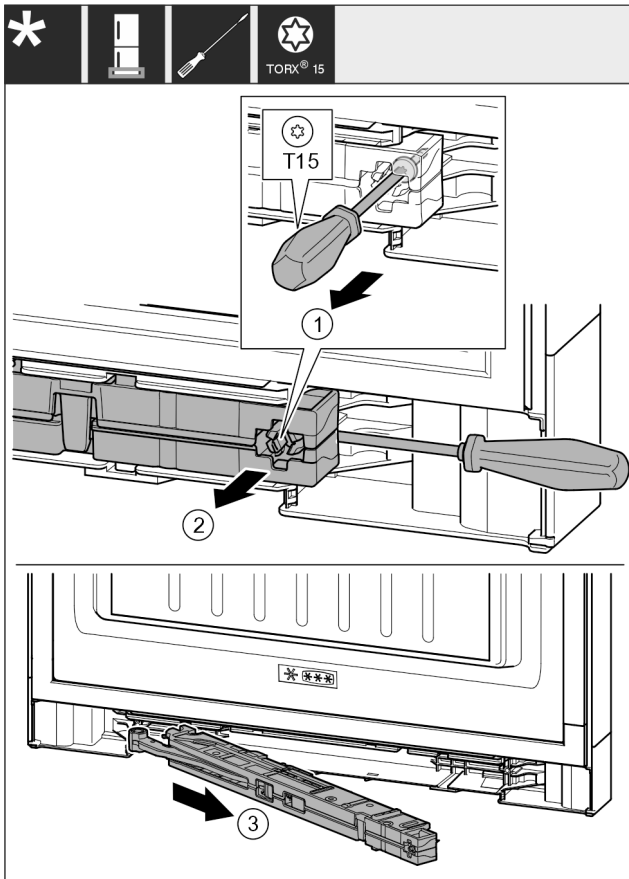

Fig. 19
- Loosen the screw Fig. 19 (1) on the closing damper unit with a 14 mm (9/16 in) screwdriver.
- Use the screwdriver to lift out the closing damper unit Fig. 19 (2) on the handle side.
- Pull out the closing damper unit Fig. 19 (3).